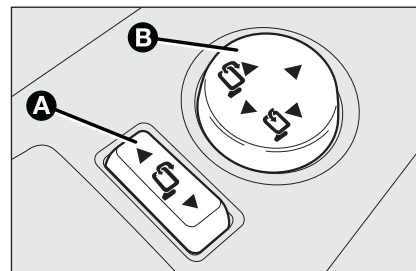

fig. 36
- ☐ set selector **A**-fig. 36 to home position (no mirror selected);
- ☐ to fold the mirror move the joystick **B**-fig. 36 in side directions;